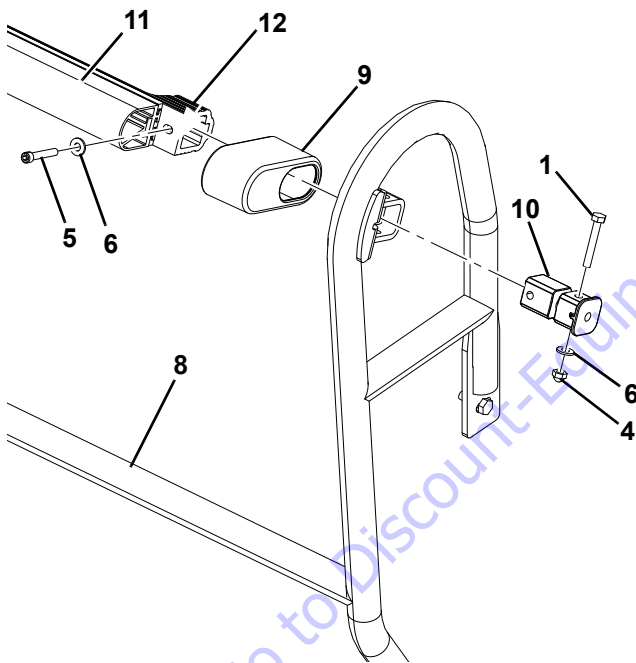

Figure 4-29.
5. Insert a Shear Block Support (10) through shear block housing on the SkyGuard support bracket and into the platform sensor mount. See Figure 4-29.
**NOTE:** Ensure the correct position of Shear Block Support (10) before installation.
6. Secure the shear block on welded mount of SkyGuard support bracket using Bolt (1), relevant Washer (6) and Acorn Nut (4) as shown in Figure 4-29.
7. Secure the SkyGuard switch assembly using Bolt (5) and relevant Washer (6) on platform sensor mount. See Figure 4-29.
**NOTE:** Tighten the Bolt (5) using appropriate allen wrench.
WHEN THE SKYGUARD IS PUSHED WITH EXCESSIVE FORCE THE SENSOR SUPPORTS (ITEM 10 - FIGURE 4-29.) WILL BREAK. REPLACE WITH NEW SENSOR SUPPORTS BEFORE CONTINUING OPERATION OF THE MACHINE.